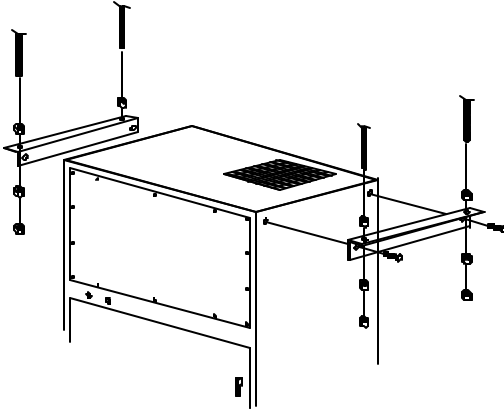

FIG. 3
1. Remove the two (2) 5/16" bolts from the side of the cabinet at
2. Use the bolts removed in Step 1 to secure the ceiling mount brackets to the unit as shown in **FIG. 3**.